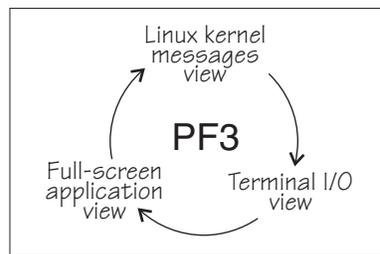

Figure 56. Switching views of the 3270 terminal device driver
The 3270 terminal device driver provides three different views. Use function key 3 (PF3) to switch between the views (see Figure 56).